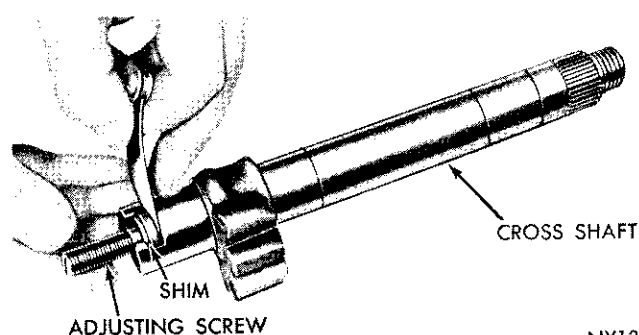

Fig. 12—Measuring Cross Shaft Adjusting Screw End Clearance
(28) Place a protective sleeve of plastic tape over wormshaft splines so splines do not damage seal. Slide adjuster assembly over shaft.
(29) Thread adjuster into steering housing, and with Tool wrench C-3884 and splined nut set, tighten adjuster to 50 foot-pounds while rotating wormshaft. This is done to effectively seat bearings.
(30) Loosen adjuster so no bearing pre-load exists. Then, using torque wrench Tool C-3380, adjust wormshaft bearing pre-load from 1-1/8 to 4-1/2 inch-pounds.
(31) After adjusting pre-load, tighten bearing adjuster lock nut, and retest to be sure preload remains between 1-1/8 and 4-1/2 inch-pounds.
(32) Before installing cross shaft, pack wormshaft cavities in housing above and below ball nut with steering gear lubricant. Use steering gear lubricant whenever possible, but if not available, a good grade of multi-purpose lubricant may be used. Do not use gear oil. When gear is properly packed with steering gear lubricant it will contain eleven fluid ounces of lubricant, and level of lubricant will be at top of worm.
(33) Slide cross shaft adjusting screw and shim into slot in end of shaft.
(34) Test end clearance (Fig. 12). The screw must be free to turn with zero to .004 inch end play. Three different thickness shims are available to obtain specified clearance.
(35) Start cross shaft and adjuster screw into bearing in housing cover. Using a screw driver through hole in cover, turn screw counterclockwise to pull